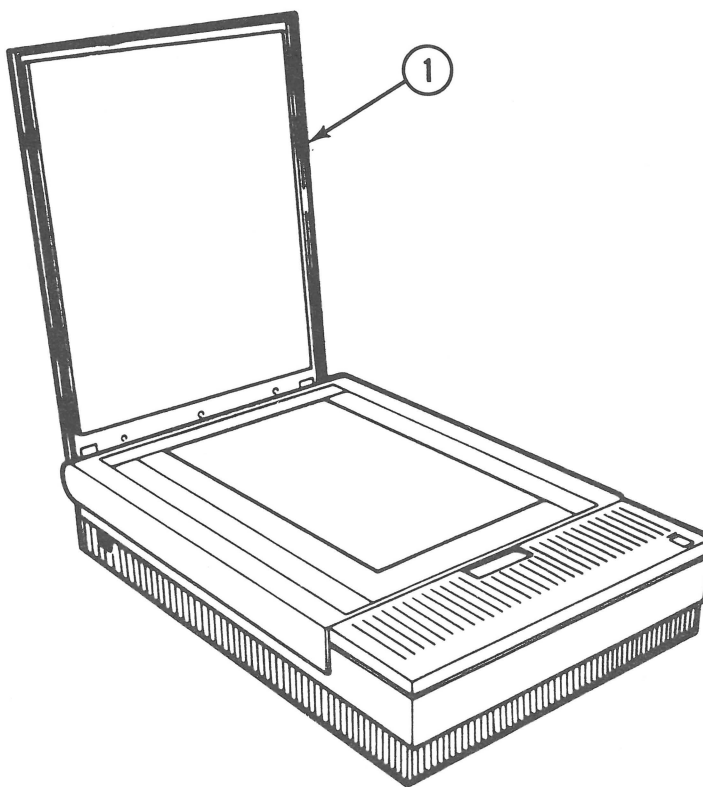

FIGURE 5
1. Raise the top cover to the vertical position (Figure 5, #1).